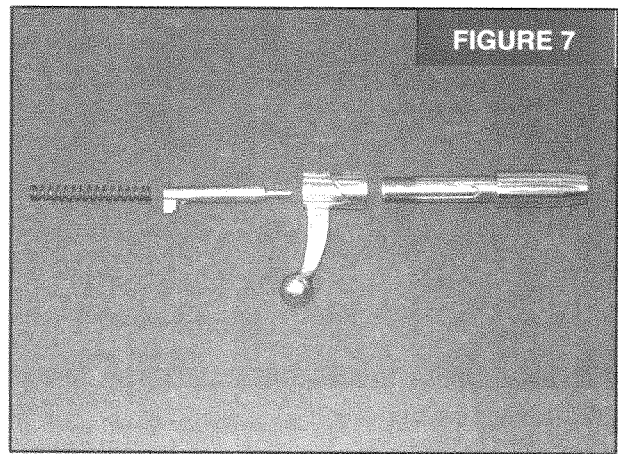

FIGURE 7
3. Reassemble bolt body, bolt handle, striker, and spring (Figure 7).